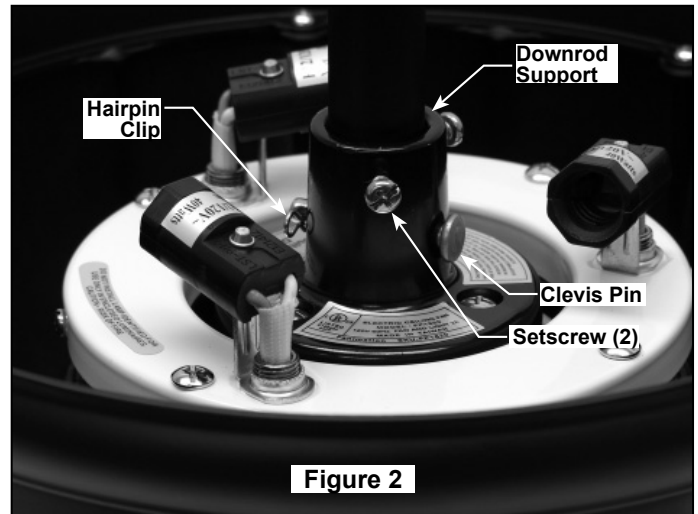

Figure 2
4. Loosen the two setscrews in the Downrod Support. Align the Clevis Pin holes in the Downrod with the holes in the Downrod Support. Install the Clevis Pin and secure with the Hairpin Clip. (Figure 2)
7. While pulling up on the hanger ball, securely tighten the two 3/16-24 x 3/8" setscrews in the downrod support (Figure 2).
1. Using the $\frac{3}{8}$ " x 2" lag bolt and flat washer, attach safety cable to ceiling joist or wood structural member. The lag bolt will pass through the flat washer, safety cable loop, the junction box and into the building structure (Figure 2). You will first drill a $\frac{1}{4}$ " pilot hole into the building structure to prevent splitting or cracking.
NOTE: Ceiling support cable must be fastened between flat washer and ceiling junction box (Figure 2).